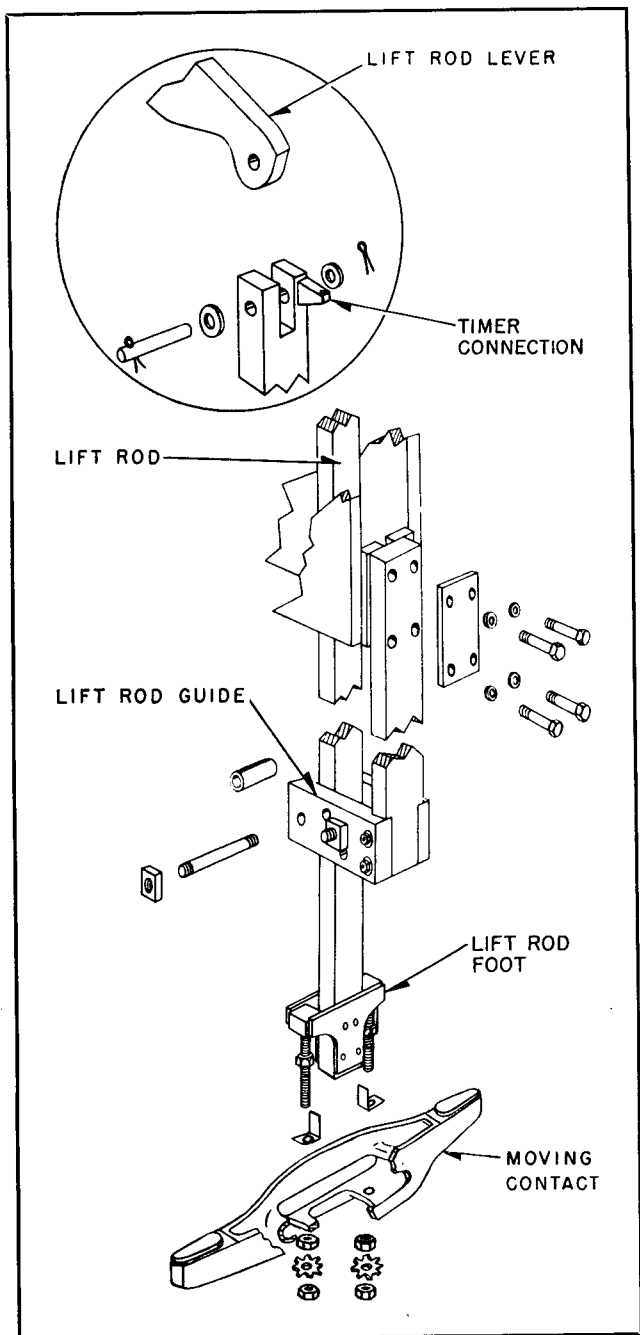

FIG. 10. Exploded View of Moving Contact Unit
Before final alignment of the stationary contacts can be made, the moving contact must be assembled on the lift rod foot according to the procedure outlined below. It is advisable to complete the assembly of the moving contacts on all three pole units at this time. See Fig. 10.
Adjusting Vertical Alignment of the Lift Rod. Oversize holes are drilled in the guide rod to provide for adjustment of the vertical alignment of the lift rod. To adjust, loosen the four bolts shown in Fig. 10 and shift lower end of guide slightly to the left or right as desired. A series of holes in the lower horizontal guide pieces accommodates a variation in thickness of the lift rod, and permits forward or backward adjustment of the lift rod. Tighten bolts securely when required position is attained.
Disconnecting the Lift Rod. The lift rod may be disengaged from its operating lever by removing cotter pin, washer, and main pin assembly as indicated in Fig. 10.
Swinging the Lift Rod Out of Position. The lift rod can be conveniently swung out of its vertical position by removing the guide pin and space collar as shown in Fig. 10. This allows clearance for rotation of the fully assembled stationary contact units.
1. Remove Micarta shield (5) and inside half of upper metal shield (4). These are already off at initial installation.
2. For the initial installation it is best to make adjustments on each pole independently by dropping the lift rod (remove pin in upper rod end per Fig. 10) in the other 2 poles. Close the breaker slowly by hand until it just latches (should have $\frac{1}{16}''$ clearance at all lift rod and toggle stops) or $\frac{3}{8}''$ contact spring compression is obtained at "B". In the latter event, do not close breaker any further until the moving contact crossbar is lowered, in order not to damage any contacts parts. If the contact spring compression is less than $\frac{3}{8}''$ after the breaker latches, raise the moving contact crossbar evenly on the lift rod foot until $\frac{3}{8}'' \pm \frac{1}{32}''$ is obtained at "B" on both stationary contact assemblies.